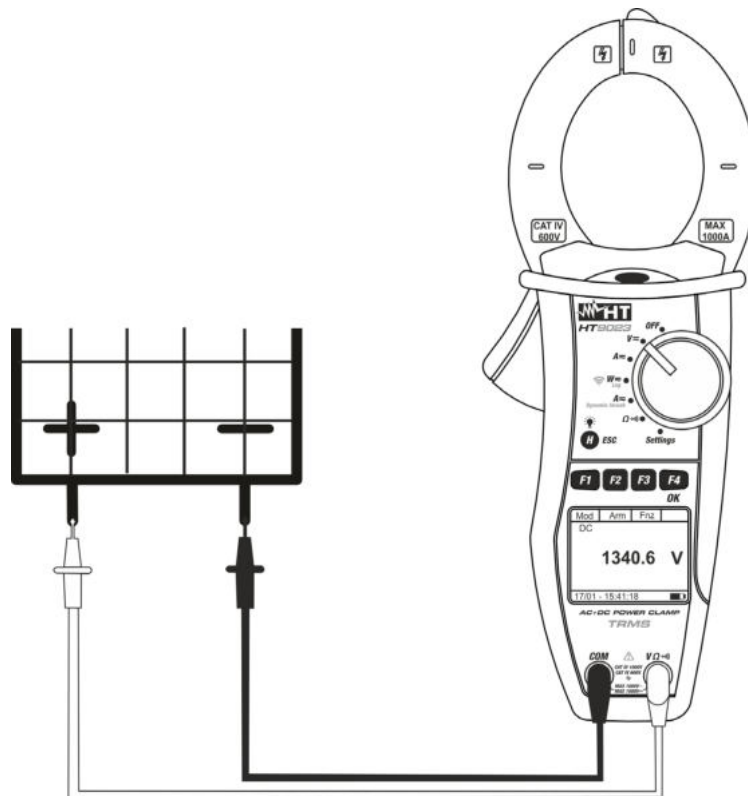

Fig. 5: DC Voltage measurement
4. Connect red cable to input lead **VΩ)))** and black cable to input lead **COM** then position the leads at the desired points of the circuit under test (see Fig. 5)